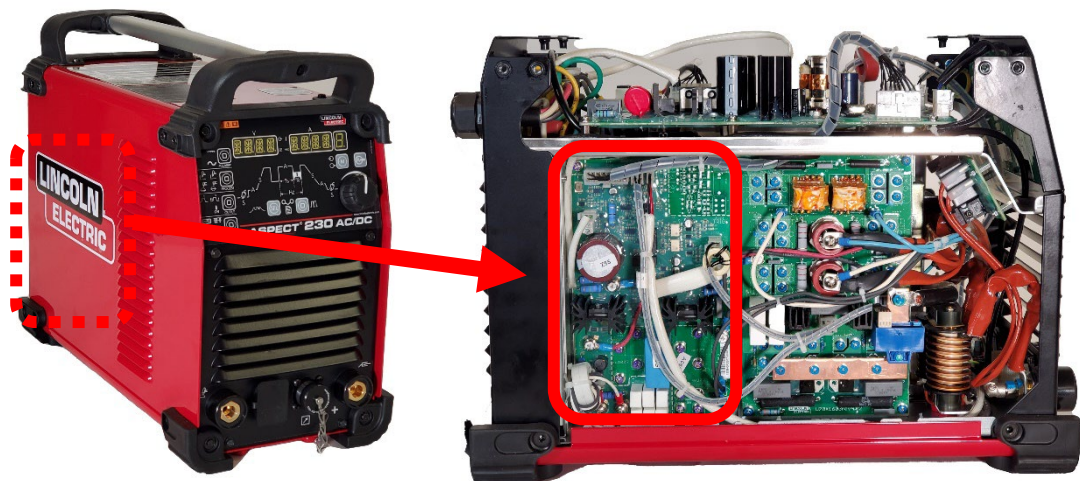

Figure F.1
1. For location of the Output Control Board refer to Figure F.1.